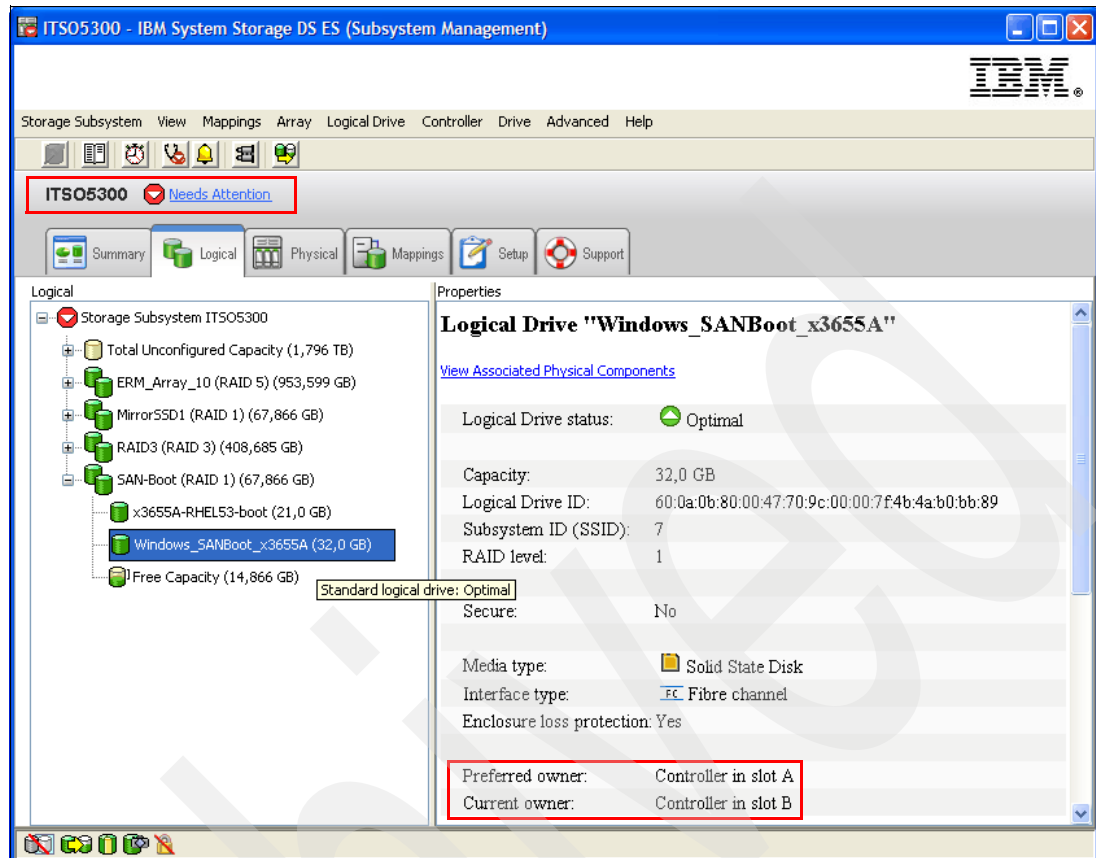

Figure 5-78 Controller B takes ownership
3. Within 120 seconds, the multipath driver will cause a failover to the secondary path, which is attached to controller B on the DS5000 storage subsystem (Figure 5-78).